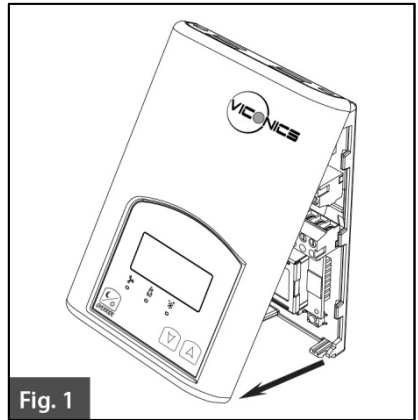

Fig. 1
- Open unit by pulling on the bottom side of Terminal Equipment Controller (fig. 1).